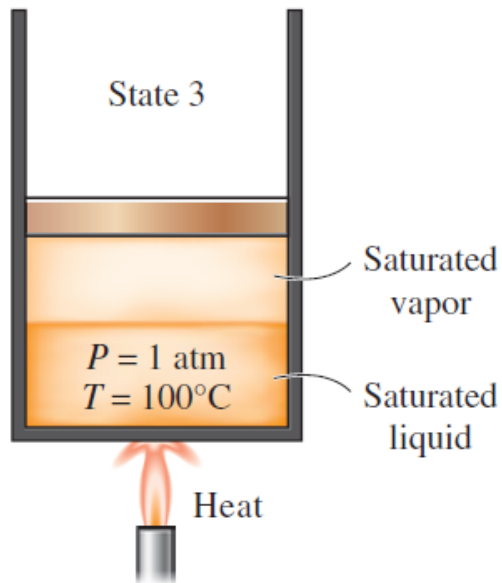
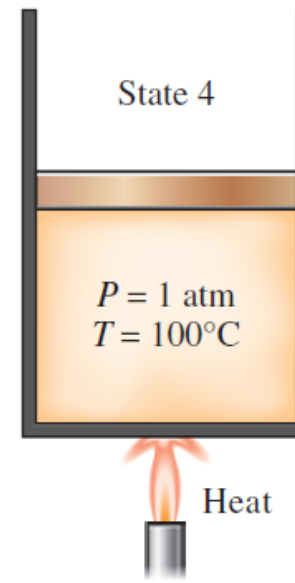

Fig. 3.5: As more heat is transferred, part of the saturated liquid vaporizes (*saturated liquid–vapor mixture*).
Fig. 3.6: At 1 atm pressure, the temperature remains constant at 100°C until the last drop of liquid is vaporized (*saturated vapor*).
- Midway about the vaporization line (state 3, Fig. 3.5), the cylinder contains equal amounts of liquid and vapor. As we continue transferring heat, the vaporization process will continue until the last drop of liquid is vaporized (state 4, Fig. 3.6). At this point, the entire cylinder is filled with vapor that is on the borderline of the liquid phase.